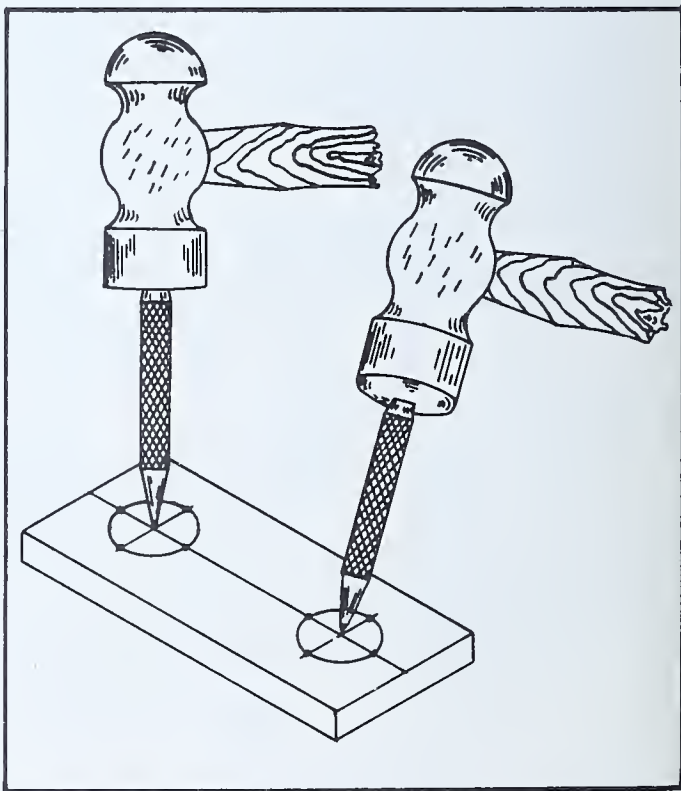

FIG. 35 — *Two uses of the Prick Punch and Ball Peen Hammer.*
A ball peen hammer (Fig. 35) is used by the joiner in doing metal joiner work where it is necessary to use a center punch or a cold chisel or in doing rough work on iron. Using the ball peen
1. When using a prick punch, strike a light blow or use a light hammer. A violent blow will break the point of the prick punch and cause the mark to be "off center". See Fig. 35.
3. Hold the center punch square with the work unless it is necessary to "draw" the punch mark. See Fig. 35.